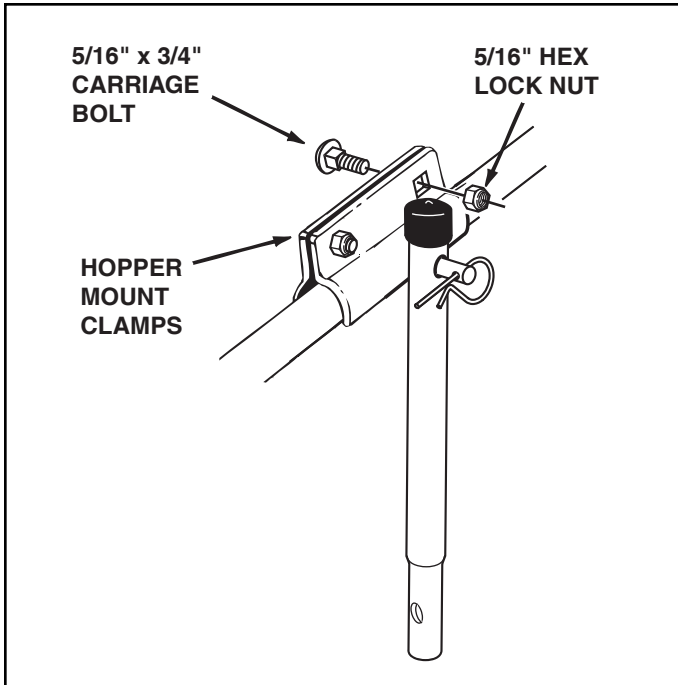

FIGURE 19
- Fasten the hopper mount clamps together using four 5/16" x 3/4" carriage bolts and 5/16" hex lock nuts. Tighten securely. See figure 19.